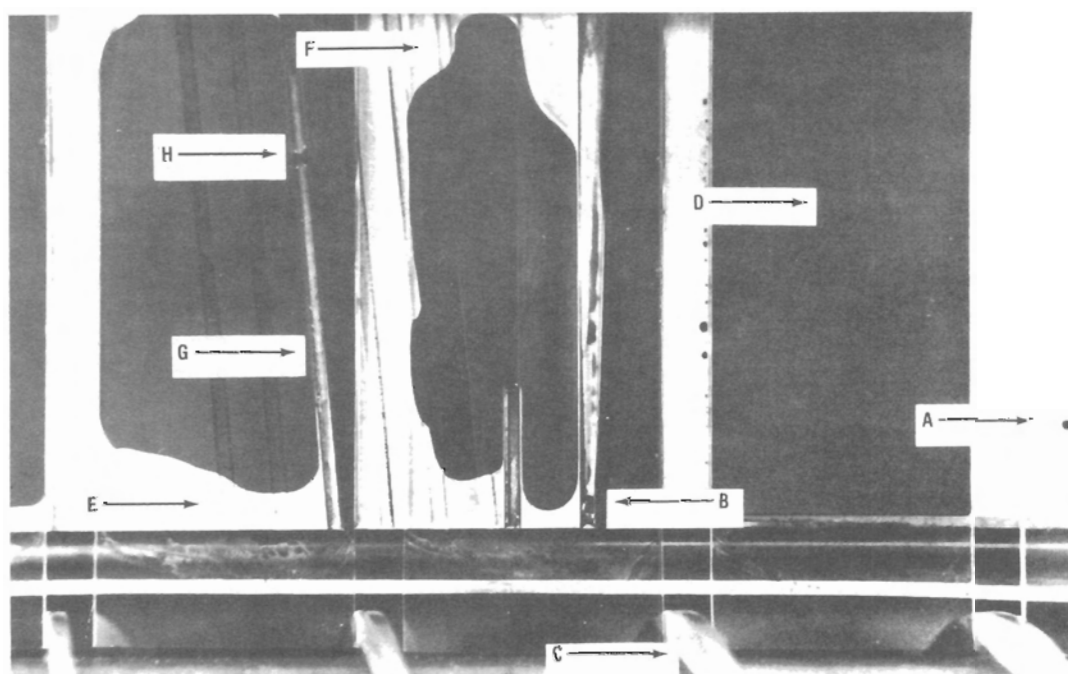

Figure 3-9
- E. Place ten (10) blank glass slides onto the conveyor spirals. Allow several slides to pass across the platen to adequately wet its surface.
- F. As the remaining slides pass across the stain area of the platen, adjust the stain pump (the pump on the right) to deliver just enough stain to fill the capillary gap between the slide and platen as the slide nears the buffer area. It may be necessary to slightly underfill or overfill the slide initially in order to provide a proper fill just prior to buffering (see Figure 3-9, D). Check that a proper fill has been obtained on at least three consecutive slides. Be aware that not all slides are perfectly flat and some variations in filling may be seen.
- G. As the slides move to the buffer area on the platen, adjust the buffer pump (the one in the center) by turning the black control knob clockwise. Adjustment should be made such that the "deep" mixing groove (the third mixing groove from the left) remains almost empty as the slide moves across it (see Figure 3-9, G). Only a small stream (about 1/4 inch or less) of stain/ buffer mixture should fill the groove (see Figure 3-9, H). The solution may even be observed to "pulse" across the groove at times. This provides maximum mixing of stain and buffer solutions resulting in more uniform and consistent staining of blood films.
NOTE: The slides will appear underfilled as they travel over the mixing grooves because some of the solution will "fall" into the grooves (see Figure 3-9, F).